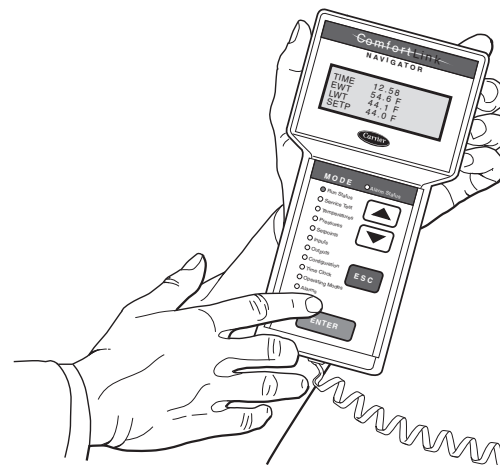

Fig. 2 — Accessory Navigator Display
**Accessory Navigator™ Display** — The accessory hand-held Navigator display can be used with the A Series units. See Fig. 2. The Navigator display operates the same way as the scrolling marquee device. The Navigator display is plugged into the RJ-14 (LEN) jack in the main control box on the COMM board. The Navigator display can also be plugged into the RJ-14 jack located on the ECB (economizer control board) located in the auxiliary control box.